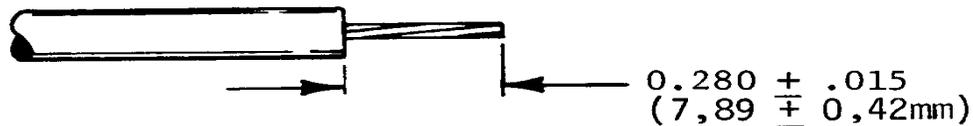

FIGURE 2
4.1.1 Single wire shall be stripped. See Figure 2.